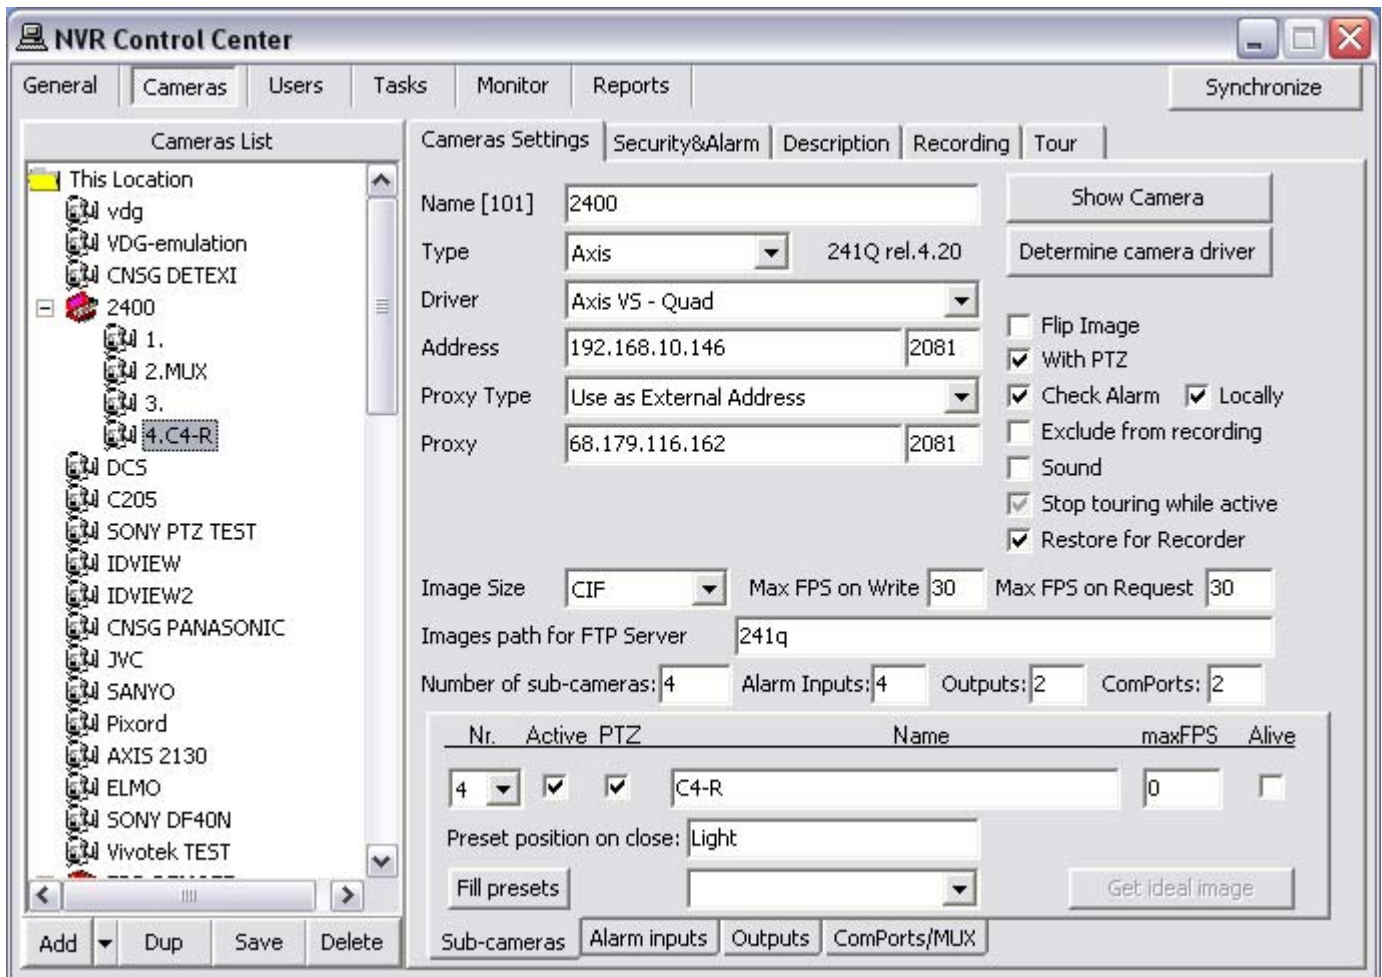

Fig 44. NVR Control Center — Cameras — Cameras Settings
1. In the **NVR Control Center — Cameras** select a camera from the **Cameras List** (Fig 44).